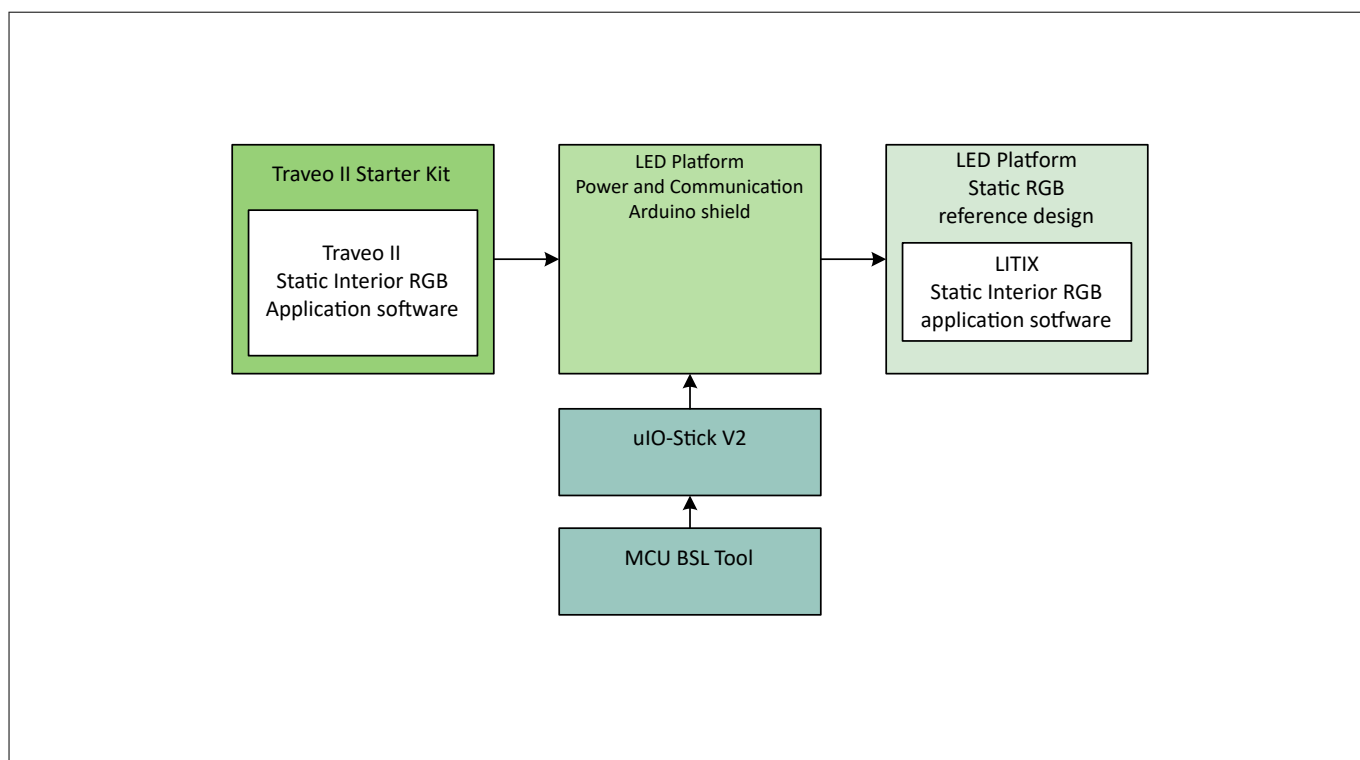

Figure 2 Infineon's static interior lighting system offering
6. Fill in the questionnaire, accept the license terms, and click **Submit request**, as shown in Figure 2